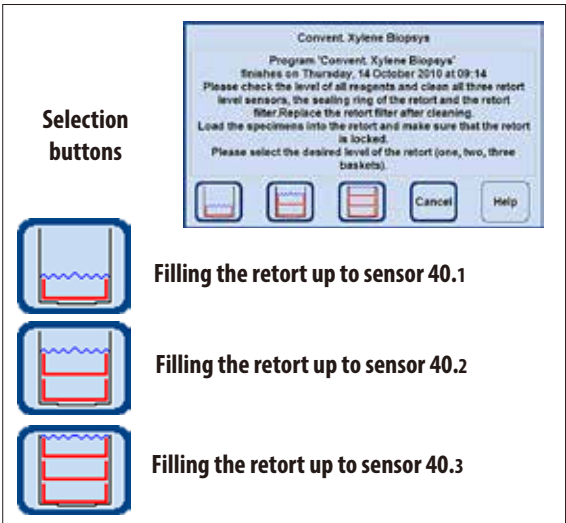

Fig. 31
Level sensors (at left in Fig. 31)
Depending on how many baskets the retort is loaded with, the fill volume can be selected in the dialog box by pressing the corresponding button (Fig. 31).
- For this purpose, there are three level sensors (40.1 - 40.3) (Fig. 31) located behind the cover (40) in the rear cover of the retort.